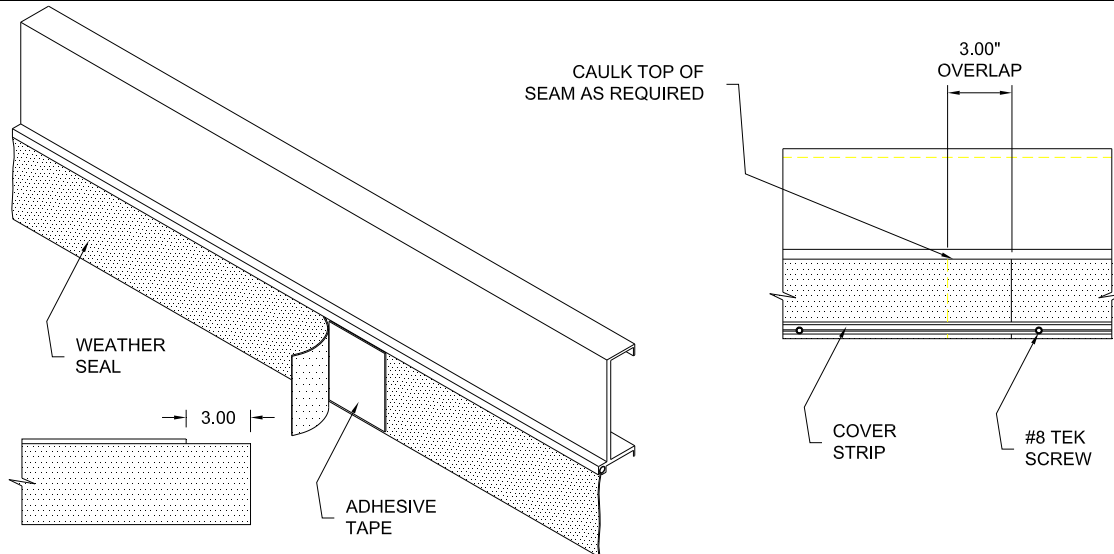

Figure 6.4
- F. Cut to length allowing for a 3" overlap (see figure 6.4).
- G. Bond weather seal with adhesive double sided tape (see figure 6.4).